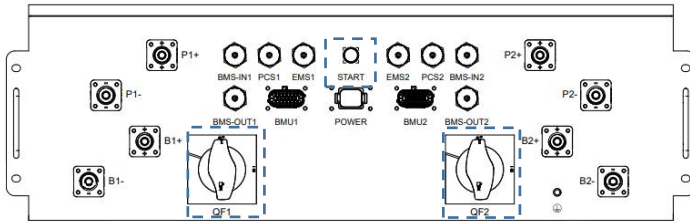

Figure.3
- ⑦ Press the **START** button, turn on the BAT MCCB **QF2** and **QF1** on the DC PDU. See the Figure.3. Measure the 24V DC voltage at the input of 202QF2, and verify the high-voltage box, battery pack power supply, and communication status. If all are normal, turn the DC auxiliary power breaker **202QF2**. See the Figure.2.